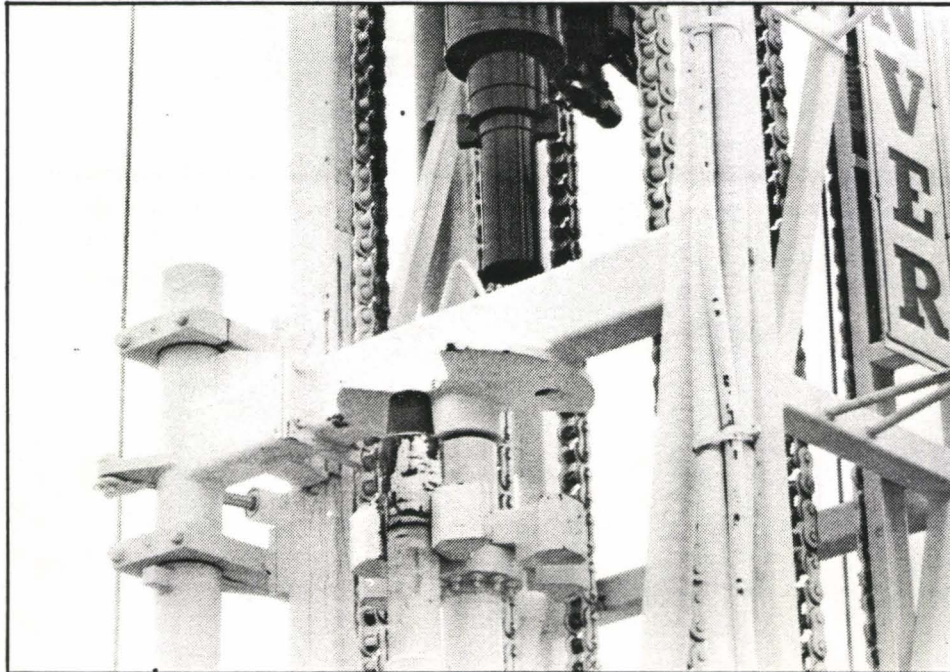

Figure 3.17.1a
- a. Adjust JIB BOOM EXTENSION CONTROL (39) and JIB BOOM SWING CONTROL (40) until hoist line is directly over the top of the section of pipe to be unloaded. (Pipe must be in position with open slot in uppermost retainer plate. If not, index carousel as necessary (Figure 3.17.1a).